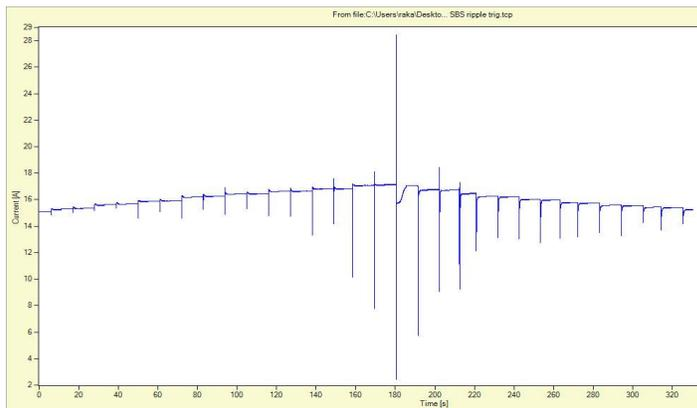
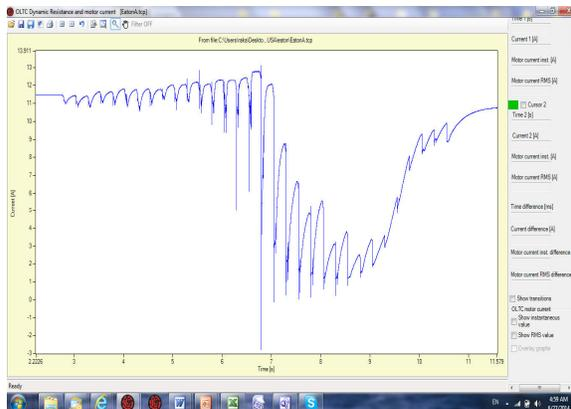

Figure 2. DVtest graph of a typical regulator
Fig.7. Slow recovery after neutral position
The DVtest or the dynamic recording of the test current provides very different overall graph compared with transformers. The ripples are changing their value from small to very large value at the neutral position; see figure 2, and then getting smaller again as other extreme position is approached.
Regulators can be equipped with tap changer of either reactance or resistance types. The reactance types are predominant in the USA networks. Ripple shape is characteristic for each construction of the tap changer. Regulator ripples are very much the same shape but different magnitude of their transformer counterparts. For that reason during the result evaluation, attention should be paid to the type and manufacture of the tap changer itself. The figure 2 graph shows different ripple shape for transitions before and after neutral position. This is normal for some reactance type tap changers.
Another specific issue at neutral on regulators is slow recovery time. As the test is performed using DC current, the inductance of the regulator winding once introduced in the test loop following the neutral position where inductance is zero, makes current increasing very slow. This is visible on the graph of the figure 2 in smaller degree, while at figure 7 it is extreme. Graf in figure 2 is of a slow tap changer, recorded by waiting for a few seconds between transitions. The figure 7 graph was recorded with high speed regulator, where transitions last very short and time to re-establish current after changing taps through neutral position is few seconds. This is significantly longer than it takes to switch from position N (17) to 33; for this particular regulator about 4 seconds.